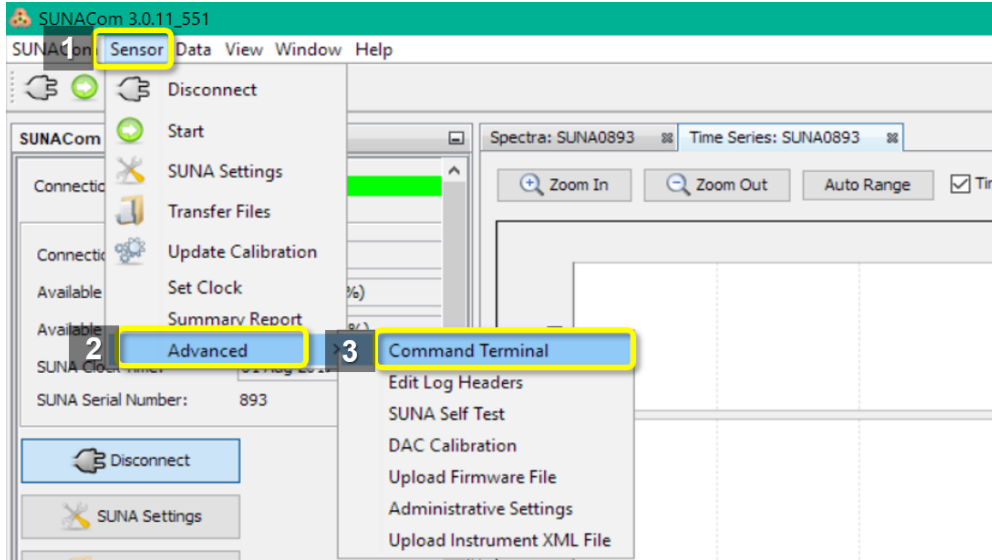

Figure 54. Select "Sensor>Advanced>Command Terminal" from Dropdown
- In the upper right hand corner, select the **“Sensor”** dropdown (see Figure 54).